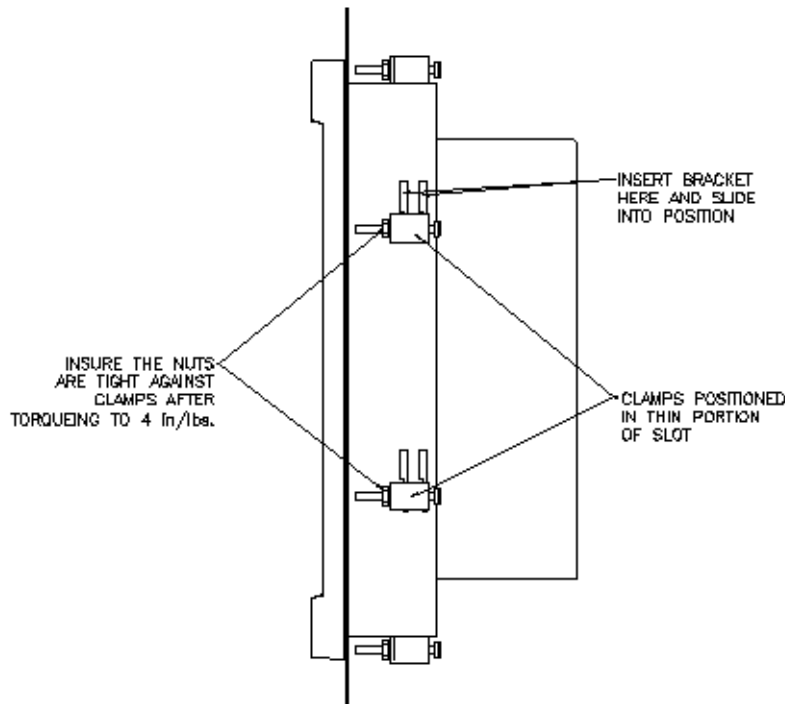

Fig. 3
2. Attach the mounting clamps, with their screws and nuts, to the back of the unit. See Fig. 3.